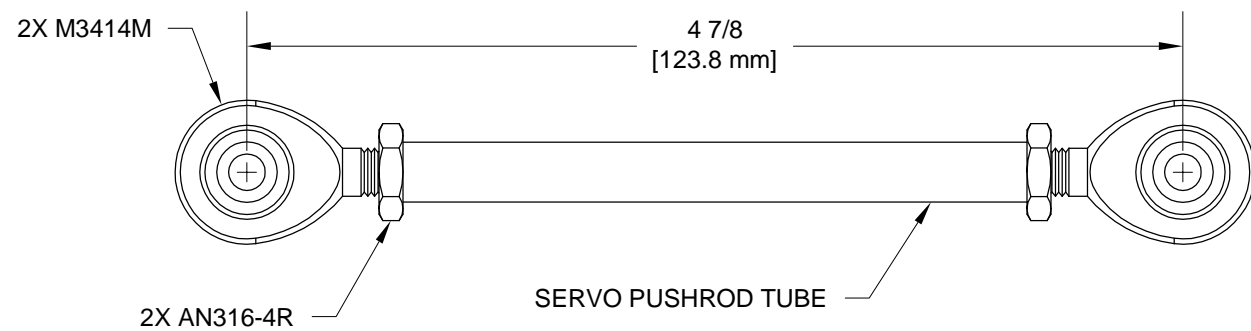

FIGURE 2: PITCH SERVO PUSHROD ASSEMBLY
Step 2: Assemble the CS-00017 Pitch Servo Pushrod Assembly as shown in Figure 2. Tighten the two nuts to 14-20 in.-lb.